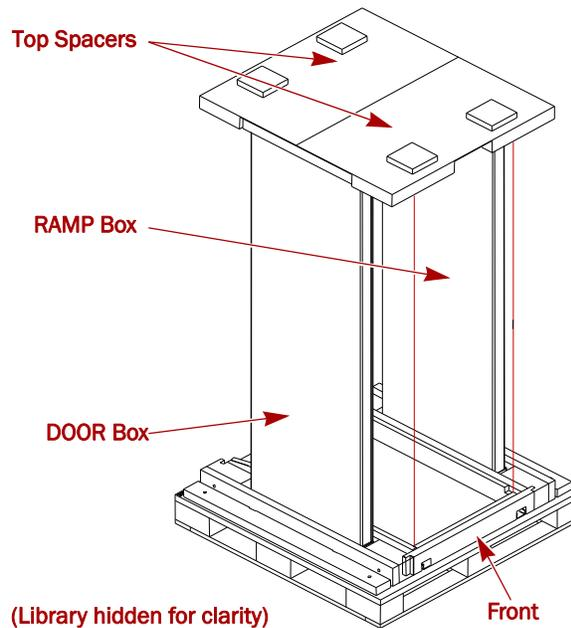

Figure 2-3: RAMP and DOOR Box Locations
- e. Remove the two (2) large pieces of **cardboard** surrounding the library.
3. Remove the inner packaging (**Figure 2-3**):